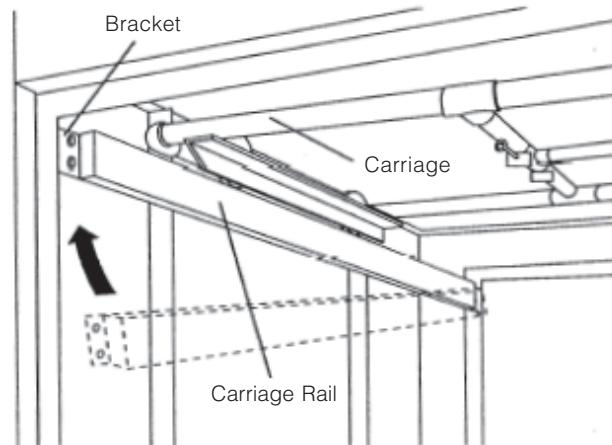

Figure 3-25. Attach Second Carriage Rail
5. While supporting the carriage, raise second carriage rail up into position and attach loose end of rail to inside of bracket (see Figure 3-25). Tighten bolts at both ends of second rail.